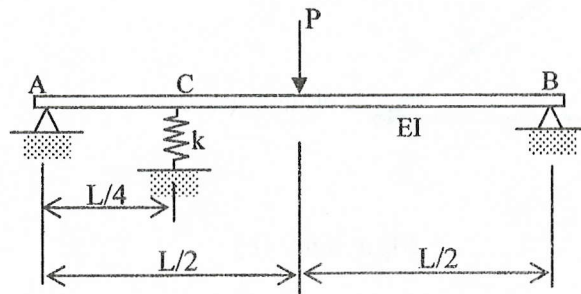

Figure 5.0
- (c) Figure 5.0 shows a simply supported beam with an elastic spring prop at point C. The beam is subjected to a point load  $P$  acting at the mid-span. The following expression for lateral displacement field  $v$  has been suggested :